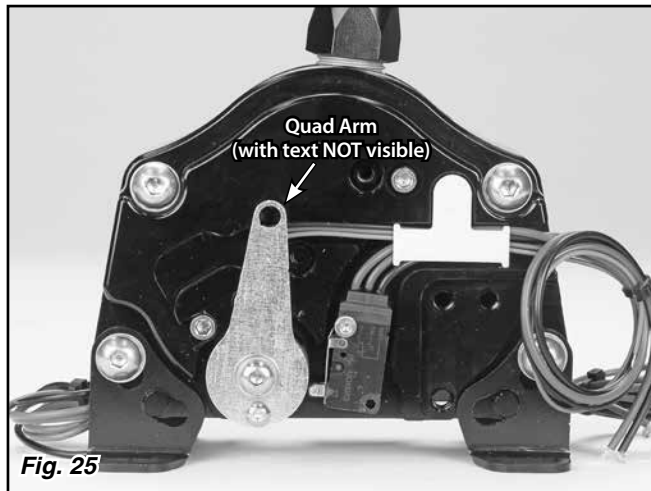

Fig. 25
Step 10: Reinstall the quad arm flipped over so the text on the quad arm is on the side towards the Shifter. Apply blue thread locking compound to the threads on both of the button head bolts that attach the quad arm to the Shifter, and install the bolts. Fig. 25